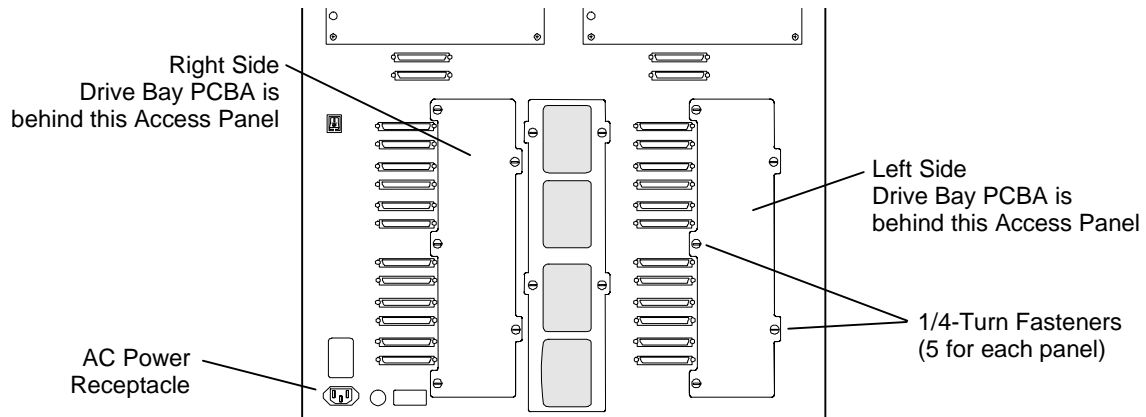

Figure 8-18 Rear View showing Access Panels
2. Using a flat-blade screwdriver, remove the appropriate Drive Access Panel at the rear of the TLS by turning its five quarter-turn fasteners counter-clockwise (Figure 8-18).
5. Align the Drive Access Panels five quarter-turn fasteners with the corresponding receptacles on the rear panel, then fasten it by turning the quarter-turn fasteners clockwise (Figure 8-18).